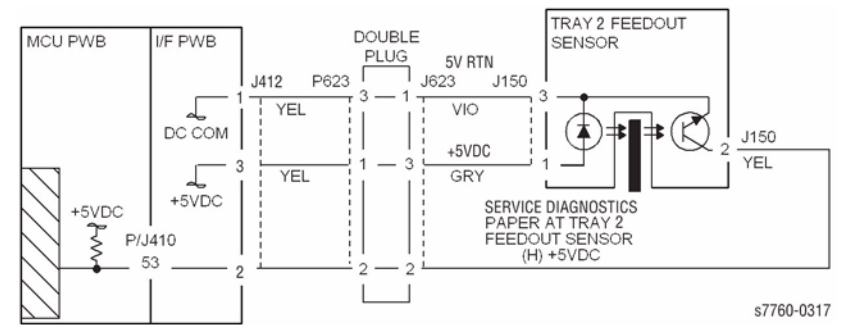
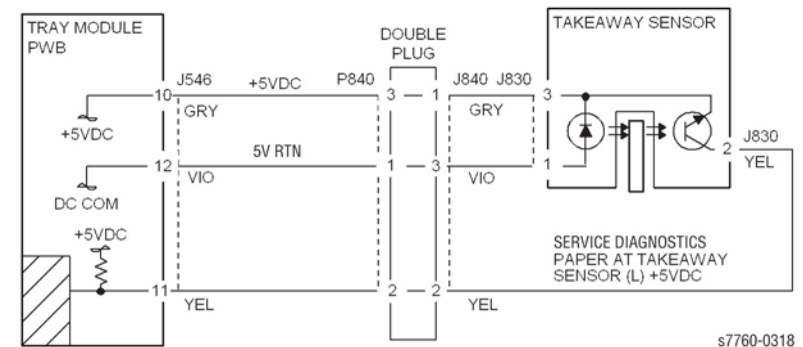
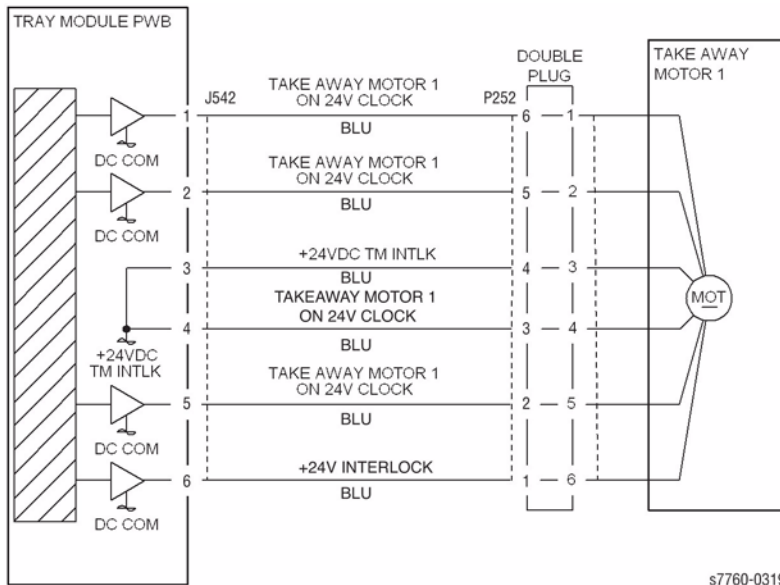

Figure 1 007-104 Tray 2 Feed Out Sensor
Figure 2 007-104 Takeaway Sensor
Figure 3 007-104 Takeaway Motor 1
- Ensure that the connectors shown in the circuit diagrams (Figure 1, Figure 2, Figure 3) are securely connected and that the wires are not damaged.